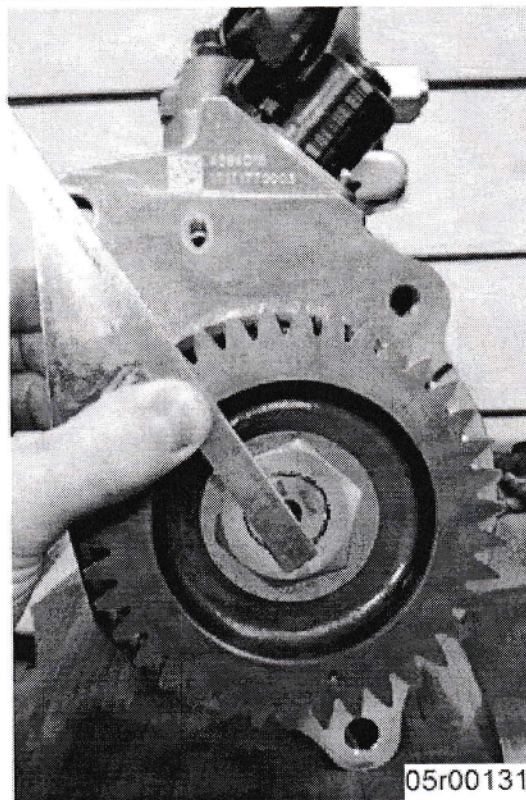

Figure 5, Mark Fuel Pump Housing (X15 CM2350 X116B).
- Count eight complete fuel pump gear teeth **clockwise** from straight edge tool and mark corresponding location on fuel pump housing. See Figure 5 below.
- Example below in Figure 5 is an approximate location. All marks **must** be made by counting gear teeth and **not** by matching Figure 5.